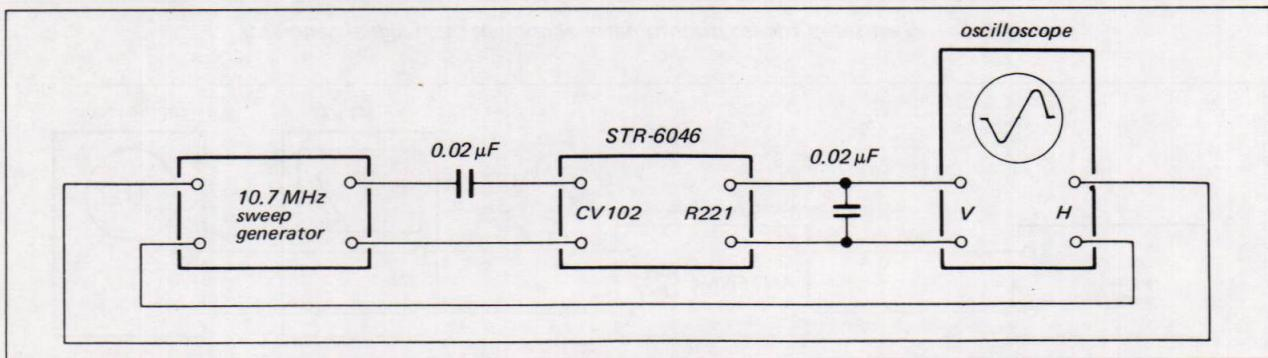

Fig. 3-5. Test setup for discriminator alignment by sweep generator
- With the equipment connected as shown in Fig. 3-5, set the sweep generator's controls as follows: